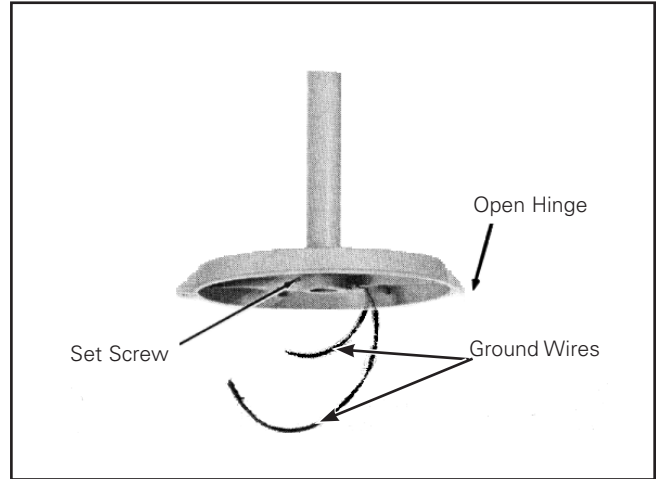

Figure 1.
- Pendant, stanchion mount: securely thread onto the appropriate NPT size conduit. Tighten set-screw located in the conduit hub (Figure 1).